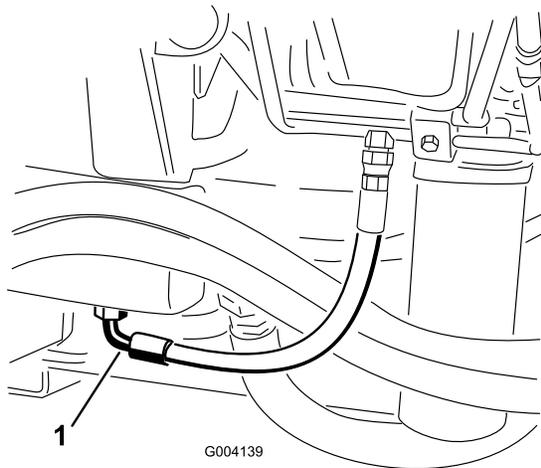

Figure 68
2. Place a large drain pan under the fitting secured to the bottom of the hydraulic fluid reservoir (Figure 68).